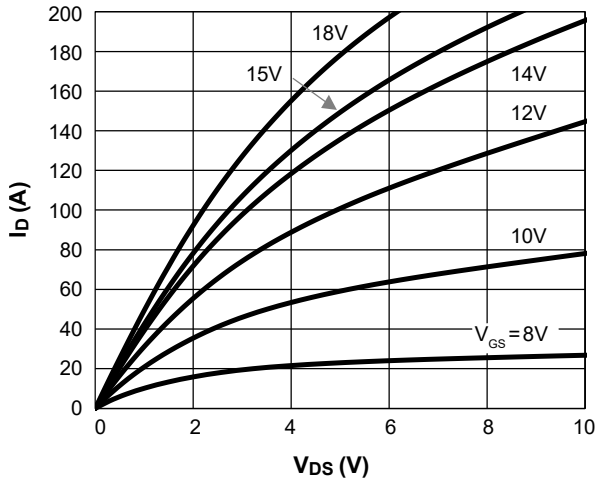

Figure 1. On-Region Characteristics $T_j = 25^\circ\text{C}$
- I. The static characteristics in Figures 1 to 8 are obtained using <300 ms pulses, duty cycle 0.5% max.